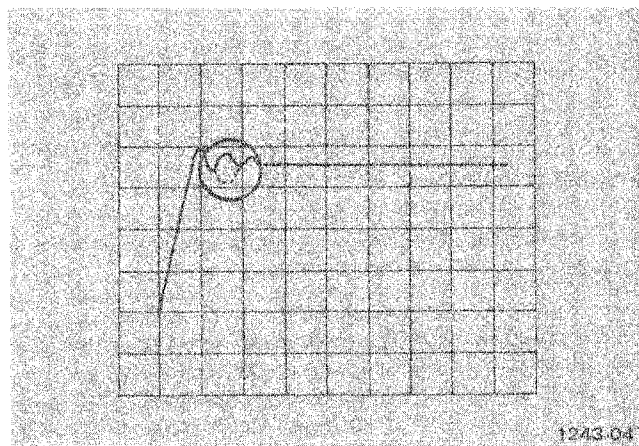
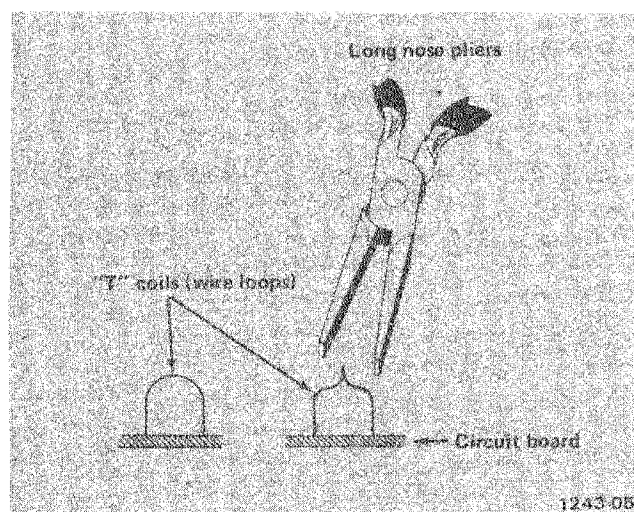

Fig. 5-3. Dotted line shows effects of bringing a metal screwdriver close to a "T" coil.
Fig. 5-4. Illustration showing method of squeezing "T" coils.
3. After determining which coil affects the aberration, shorten or lengthen the coil to reduce the aberration (see illustration Fig. 5-3). Shortening the coil, by squeezing will cause a positive going aberration to decrease while lengthening the coil, by spreading, will cause a negative going aberration to decrease. See Fig. 5-4.